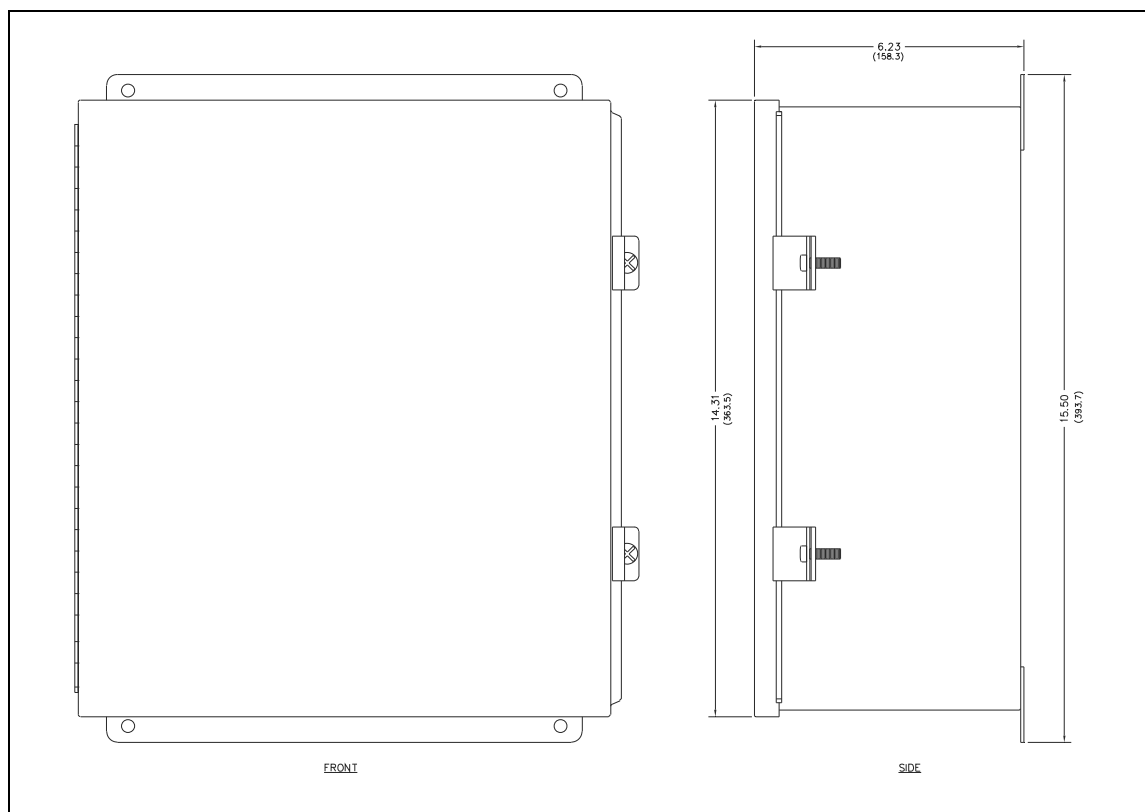

Figure 2. Model 379-003 IP MRM Station Enclosure
Mount the Model 379-003 IP MRM station vertically (see Figure 2). Select a mounting location that is flat, provides proper clearance, and is rigid and strong enough to support the enclosure. The IP MRM station weighs 19 pounds (8.6 kg)
1. Mount the enclosure using ¼-20 (M6) hardware, appropriate for the mounting surface, through the four 0.31-inch (7.9 mm) diameter holes, on the mounting flanges (see Figure 2).